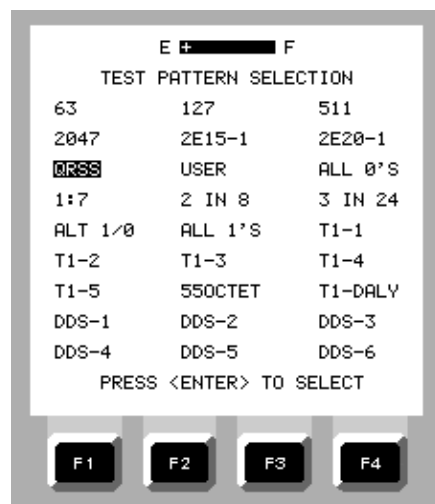

Figure 2-157. TEST PATTERN SELECTION Menu
9. Move the cursor to TEST PATTERN and use the F keys to select one of four basic test patterns, or the EDIT key to view and select from a broader list of available patterns (Figure 2-157).